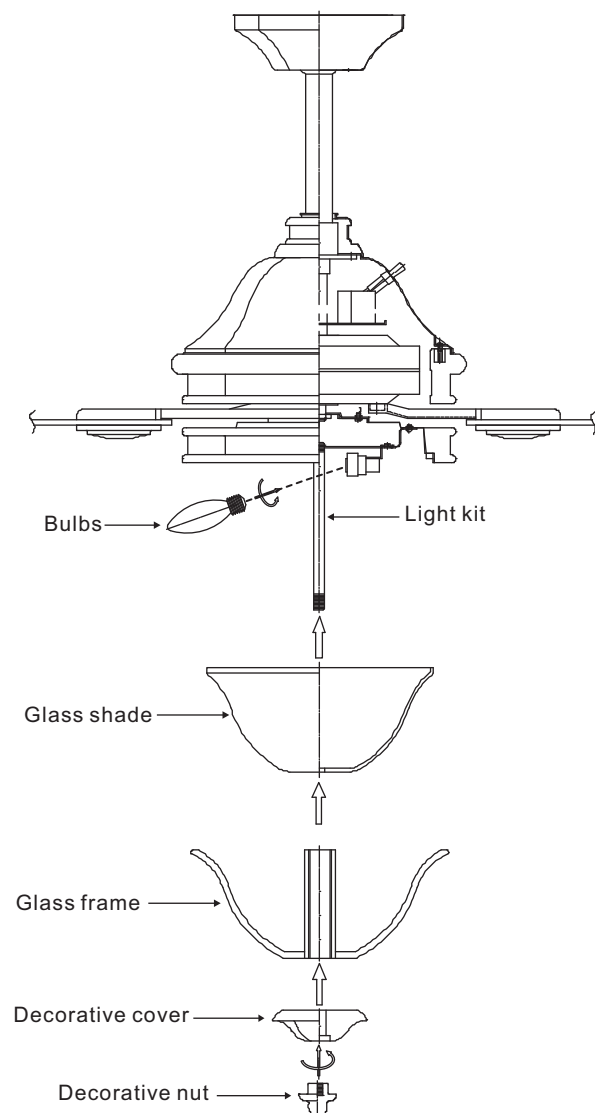

Figure 17
1. Install 3 x40w candelabra bulbs (included). (Fig. 17)
2. Place the glass shade and glass frame to the light kit with the decorative cover and decorative nut provided. DO NOT OVER TIGHTEN. (Fig. 17)